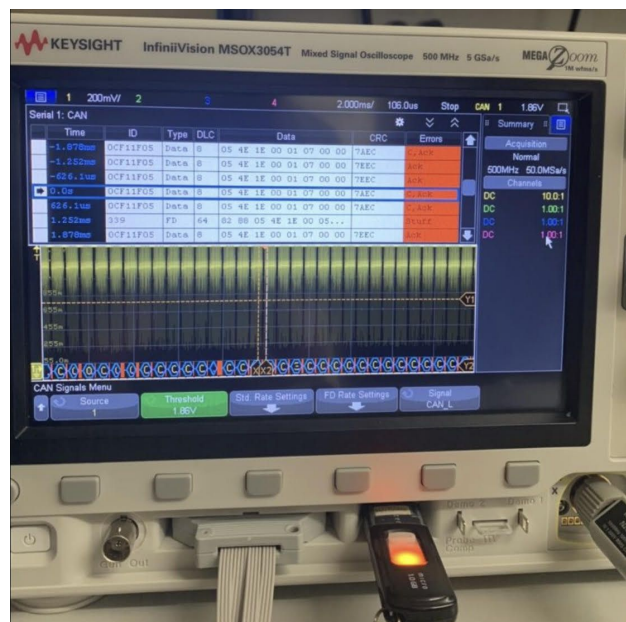

Figure 11. Keysight InfinitiVision oscilloscope analyzing CAN signal from Kelly Controllers
- A photo reference of what we saw is included in Fig. 11.